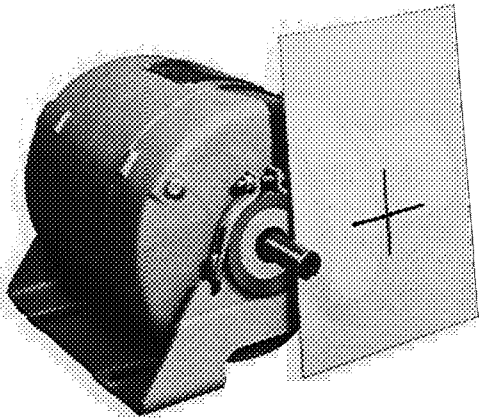

Fig. 23 - Cardboard Pattern
- a. Make cardboard pattern showing distance from base of motor to shaft center per Fig. 23.